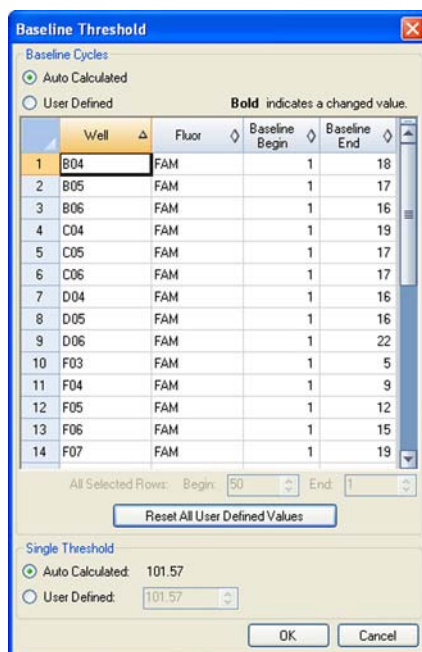

Figure 62. Baseline Thresholds window.
3. Adjust the crossing threshold (Figure 62) for the fluorophore by clicking **User Defined** and entering a threshold number.
Once wells for analysis have been selected, check the baseline settings in these wells. Open the Baseline Thresholds window (Figure 62) to change the default baseline for selected wells. To open this window:
2. Adjust the **Baseline Begin** cycle and **Baseline End** cycle for all selected wells, or change the **Begin** and **End** cycle number at the bottom of the spreadsheet (Figure 62).